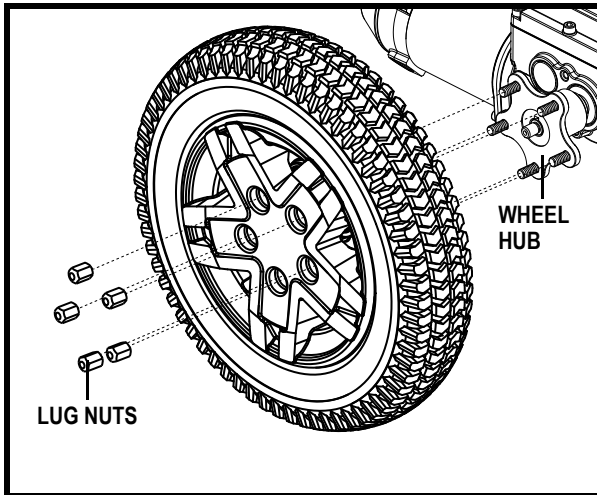

Figure 21. Q6 Edge VA Drive Wheel
4. Remove the (5) lug nuts from the wheel hub. See figure 21.